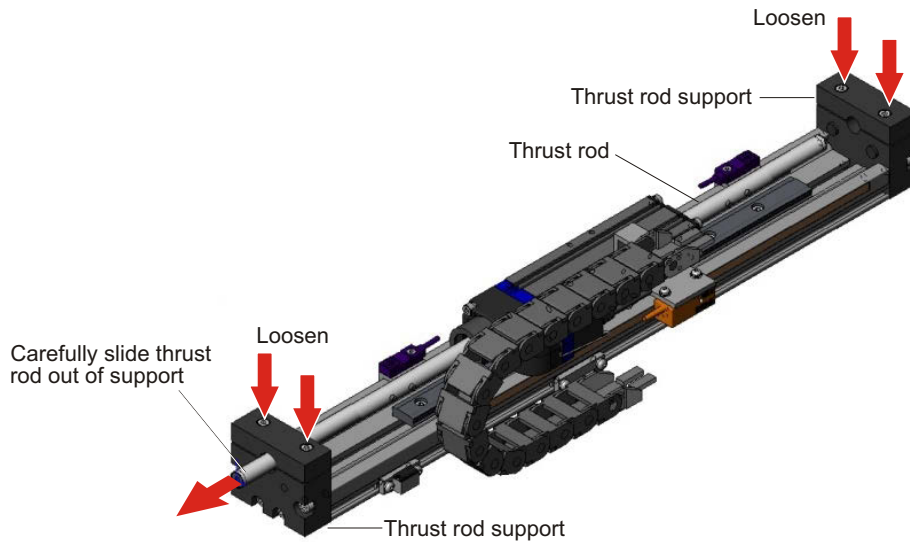

Figure 3.6
- Loosen the two M4 bolts on each of the thrust rod end supports, see Figure 3.6.